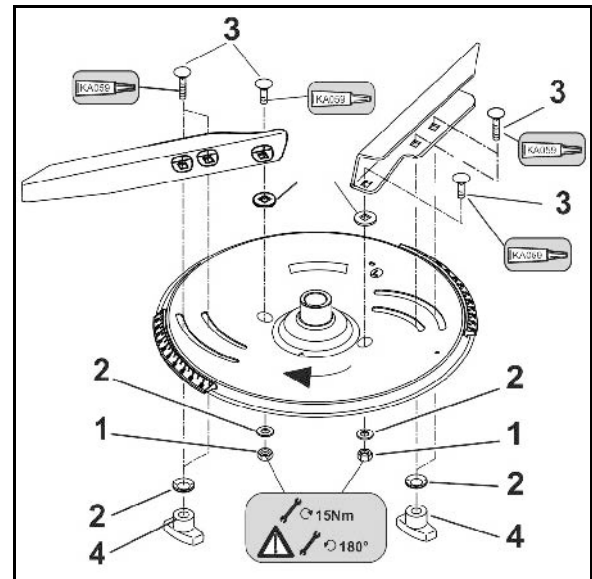

Fig. 50
- 2 x 8 screws of the leaf springs (Fig. 50/1)